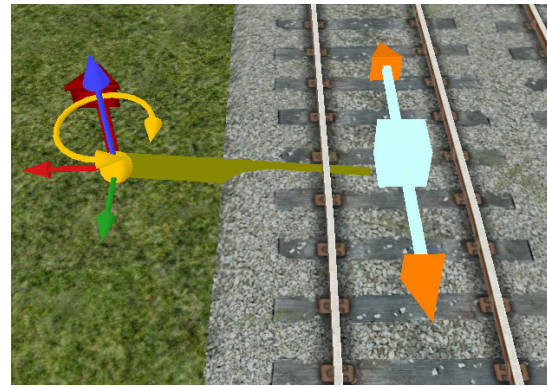

Figure 25 Milepost and track link
- 3) On releasing the object you will be presented with a track link which should be located in the “four-foot” of the adjacent track. (Fig. 25)